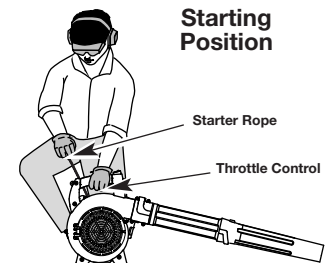

Fig. 13
**WARNING:** Avoid accidental starting. Make sure you are in the starting position when pulling the starter rope (Fig. 13). To avoid serious injury, the operator and unit must be in a stable position while starting. To avoid serious personal injury, make sure that the blower tube is locked in place or firmly installed.
**NOTE:** The unit should be started in idle. Do not squeeze the trigger while starting (Fig. 13).
5. Crouch in the starting position (Fig. 13) and pull the starter rope out until you feel some resistance. This is usually around 2-4 inches. Pull 4 times in smooth and rapid pulls.